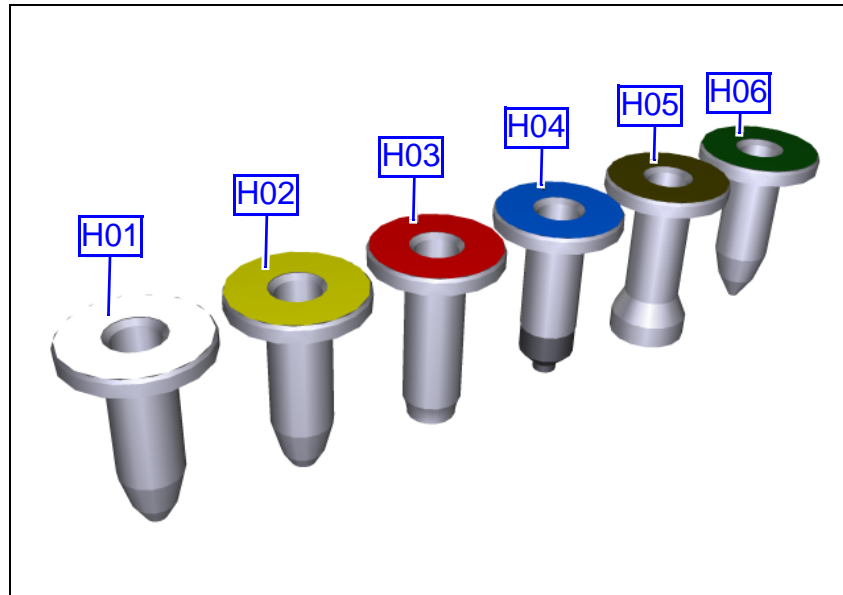

Figure 16-16. HYDRA mount tools.
2. Remove the H04 (blue tools) (see Figure 16-16) and inspect the rubber tips under a magnifier or pocket lens for cracks or abrasions. Replace tip if necessary.